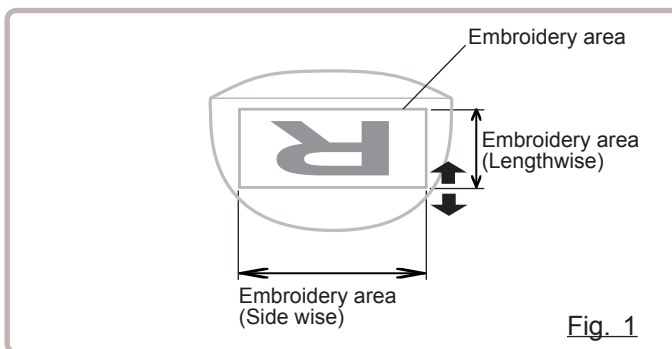

Fig. 1
The embroidery area of HAPPY semi-wide and wide cap frames is saved in the machine. The Y axis of the embroidery area can be adjusted for a variety of caps. (Fig. 1)
The embroidery area of each registered frame is set to the inside of the frame edge for pressure foot clearance. (Fig. 1, 2)
■ The embroidery area of each registered frame is set to the inside of the frame edge for pressure foot clearance. (Fig. 1, 2)